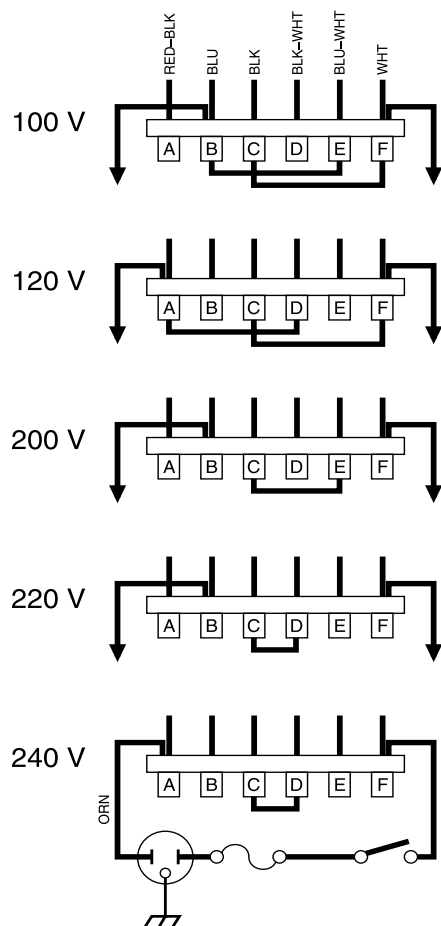

Fig. 2.3 AC Mains Voltage Conversion
4. Using a soldering iron, change the appropriate jumpers for the desired operating voltage (see Figure 2.3).